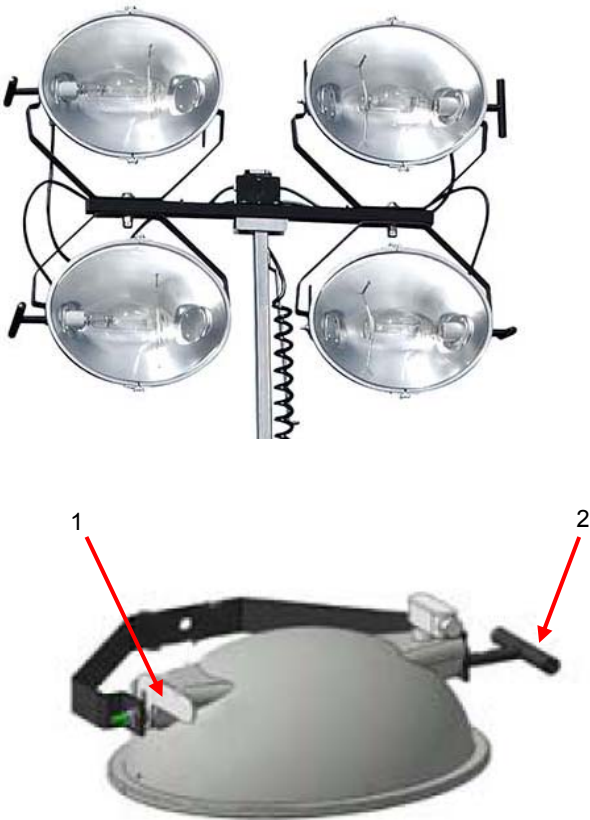

Figure 12 : Adjusting the lights
- ❶ Position the lights, tilting them manually using the positioning handle (fig. 12 no.1). Then lock them using the handle (fig.12 no.2).